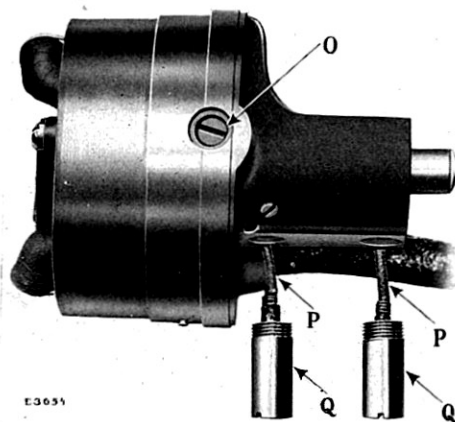
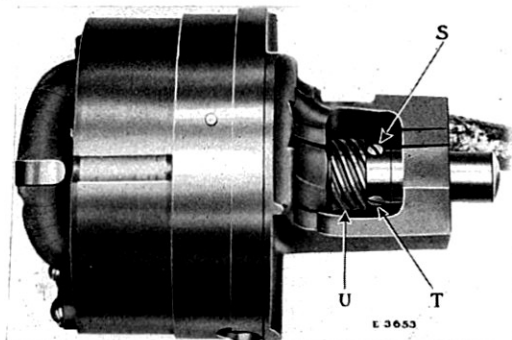
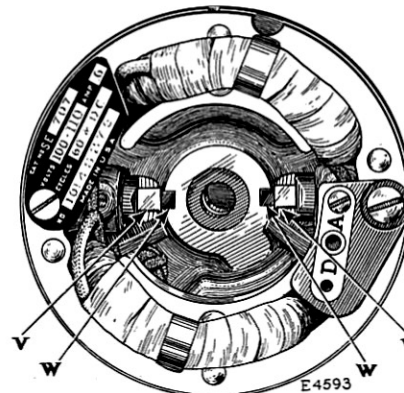
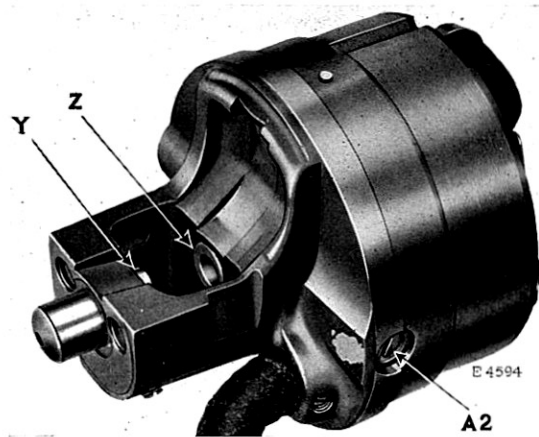

FIG. 11. VIEW OF MOTOR, SHOWING GREASE CUPS REMOVED
FIG. 12. VIEW OF MOTOR, SHOWING SPIRAL DRIVING PINION
FIG. 13. INTERNAL VIEW OF MOTOR, SHOWING BRUSHES AT THE SIDES
FIG. 14. VIEW OF MOTOR SHOWING CLEARANCE BETWEEN BEARINGS FOR SPIRAL DRIVING PINION
6. Carbon brushes (W, Fig. 13, page 13) not making contact due to sticking in brush tubes or on account of grease on the commutator.
Remove the motor from the machine, as instructed on pages 12 and 13, and see if armature turns over freely by running the finger over the spiral pinion (U, Fig. 12, page 12). If the armature turns stiffly, it should be adjusted to turn freely by following the instructions given on page 15.
1. Spiral pinion (U, Fig. 12, page 12) on motor shaft not properly adjusted.
2. No lubricant in grease cups (Q, Fig. 11, page 12).
3. Lubricating wicks (P, Fig. 11, page 12) not touching motor shaft.
4. Brush tubes (V, Fig. 13, page 13) rubbing on commutator.
Remove the two grease cups (Q, Fig. 11, page 12) to prevent the wicks (P, Fig. 11) being sheared off when replacing the armature in the motor frame.
Motors with *brushes at the sides, as shown at "W" in Fig. 13, have two screws (O, Fig. 11) and (A2, Fig. 14, page 14) one being
Loosen the two set screws (S and T, Fig. 12) in the spiral pinion and withdraw the armature from the motor frame, being careful not to damage the wiring of the armature or the surface of the commutator.
By removing the armature from the motor frame, the spiral pinion (U, Fig. 12) is separated from the armature shaft so that it can be lifted out of the recess between the two motor bearings.
Place the spiral pinion (U, Fig. 12) in the recess between the two bearings in the motor frame, being careful to have the teeth of the spiral pinion toward the armature. Then gently replace the armature in the motor frame, passing the armature shaft through the hole in the spiral pinion (U). Push the armature into the motor frame as far as it will go, then push the spiral pinion against the inner bearing (Z, Fig. 14) in the motor frame, being careful to see that there is no grease or dirt between the pinion and bearing.
Fasten the spiral pinion to the armature shaft by means of the two set screws (S and T, Fig. 12, page 12) tightening first the set screw which bears against the flat part of the shaft. To determine the flat part of the shaft for the spiral pinion set screw, turn the armature shaft until the small flat mill on its end is in line with the set screw in the spiral pinion, then tighten the set screw.
The brush marked with the aluminum must be inserted into the screw hole in the side of the motor frame marked with aluminum, the unmarked end of the brush being inserted first with the marked side of the brush facing toward the marking on the motor frame. This will ensure a perfect contact of the brushes against the commutator surface of the motor. Having inserted the brushes and springs into the brush tubes (V, Fig. 13, page 13) replace the screws (O, Fig. 11, page 12) and (A2, Fig. 14, page 14) and turn each screw inwardly until the top of its head is flush with the top edge of the fibre tube.
See if motor armature turns over freely by running the finger over the spiral pinion (U, Fig. 12, page 12). If it turns stiffly, the spiral pinion may be set too tight against the inner bearing (Z, Fig. 14). In this case, insert a piece of heavy wire through the small hole in centre of the end of the outer bearing (Y, Fig. 14) and gently tap the wire until the armature turns freely without end play. The clearance for the spiral pinion (U) between the two motor bearings (Y and Z, Fig. 14) must be only sufficient to allow the spiral pinion to rotate without friction. Too much clearance will cause the armature to vibrate when running, making the motor noisy. If there is too much clearance, gently tap the end of the outer bearing (Y, Fig. 14) toward the spiral pinion.
Fill the two grease cups (Q, Fig. 11, page 12) with Singer Motor Lubricant. See that the two felt wicks (P, Fig. 11) are not twisted or bent, as the ends of the wicks must press positively against the motor shaft to ensure proper lubrication. Replace the grease cups in the motor frame, being careful to insert the wicks into the holes in the motor bearings. Then thoroughly grease the spiral pinion (U, Fig. 12, page 12) with Singer Motor Lubricant.